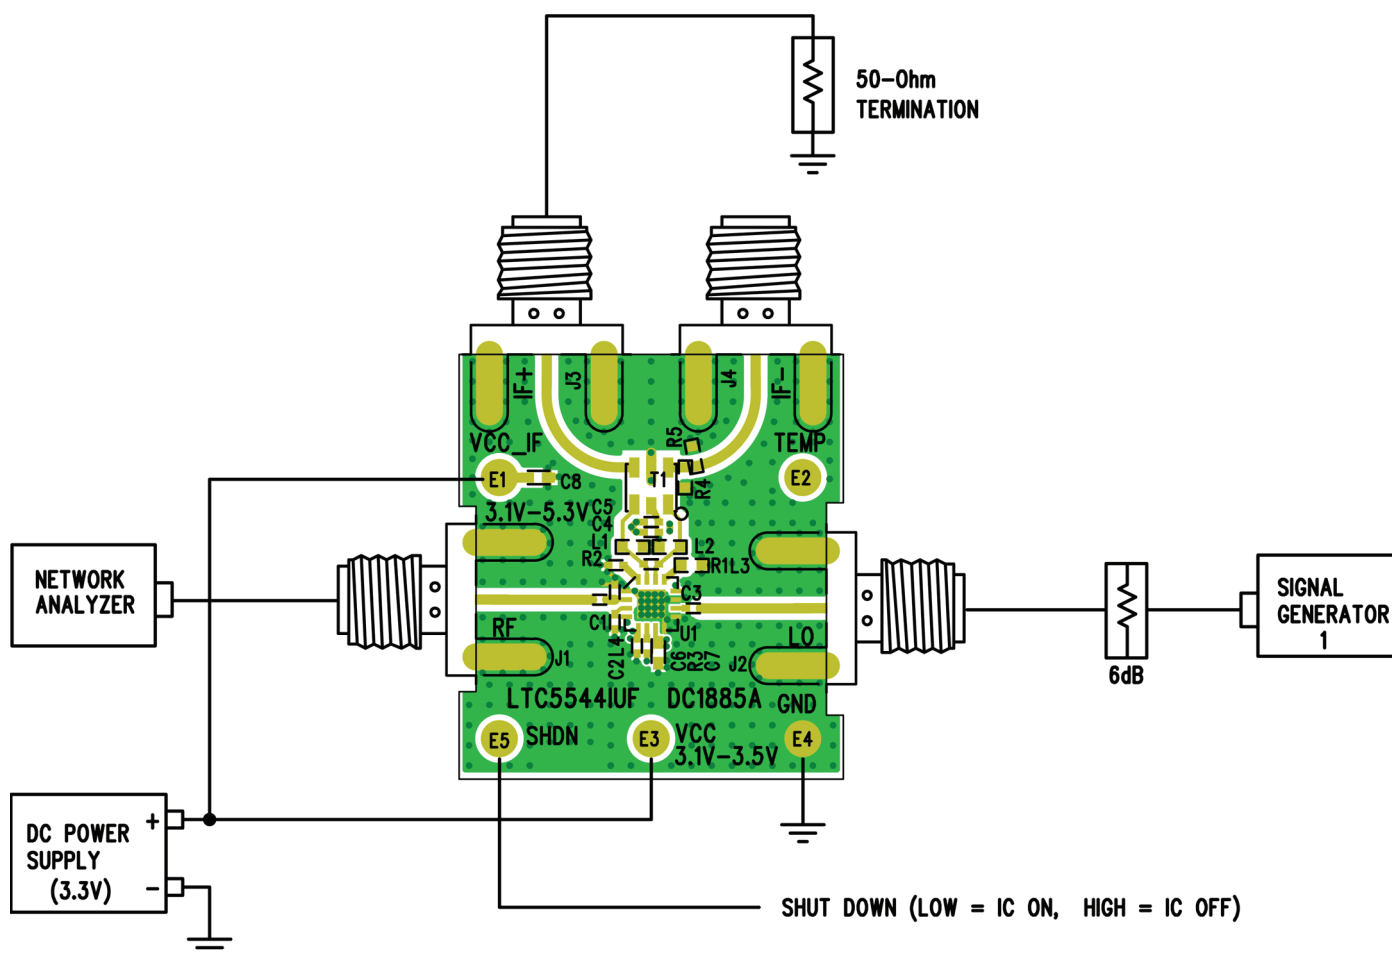
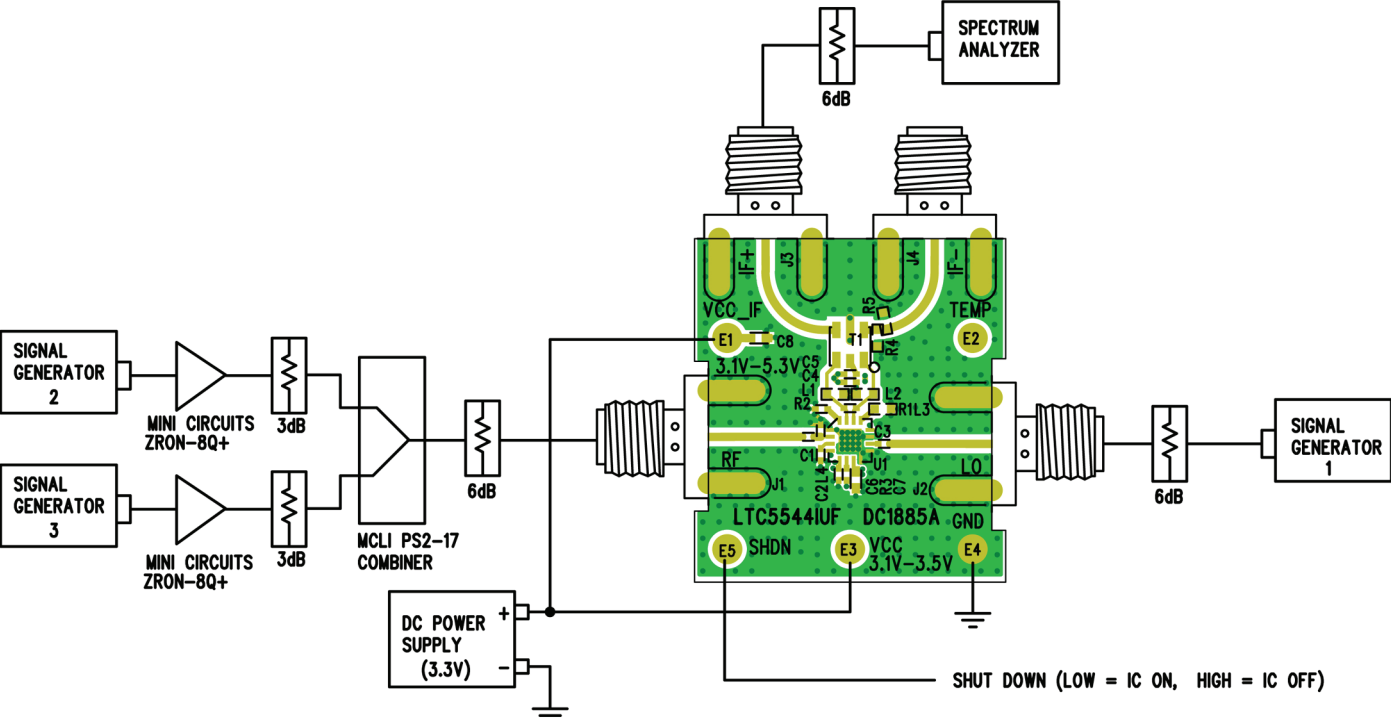

Figure 5. Proper Equipment Setup for Return Loss Measurements
Figure 6. Proper Equipment Setup for RF Performance Measurements
The LTC5544 is a high dynamic range downconverting mixer IC with very high input third order intercept. Accuracy of its performance measurement is highly dependent on equipment setup and measurement technique. The recommended measurement setups are presented in Figure 5, Figure 6 and Figure 7. The following precautions should be observed:
The LTC5544 consists of a high linearity passive double-balanced mixer core and IF buffer amplifier. Due to the bidirectional nature of all passive mixers, $LO \pm IF$ mixing product is always present at the RF input, typically at a level of 12dB below the RF input signal. If the $LO \pm IF$ "Pseudo-Image Spur" is not properly terminated, it may interfere with the source signals, and can degrade the measured linearity and noise figure significantly. To avoid interference from the $LO \pm IF$ "Pseudo-Image Spur", terminate the RF input port with an isolator, diplexer, or attenuator. In the recommended measurement setups presented in Figure 6 and Figure 7, the 6dB attenuator pad at the demonstration circuit's RF input serves this purpose.
Demonstration circuit 1885A is easy to set up to evaluate the performance of the LTC5544. Refer to Figure 5, Figure 6 and Figure 7 for proper equipment connections and follow the procedure below:
3. Connect all test equipment as shown in Figure 5 with the signal generator and the DC power supply turned off.
1. Connect all test equipment as shown in Figure 6 with the signal generators and the DC power supply turned off.